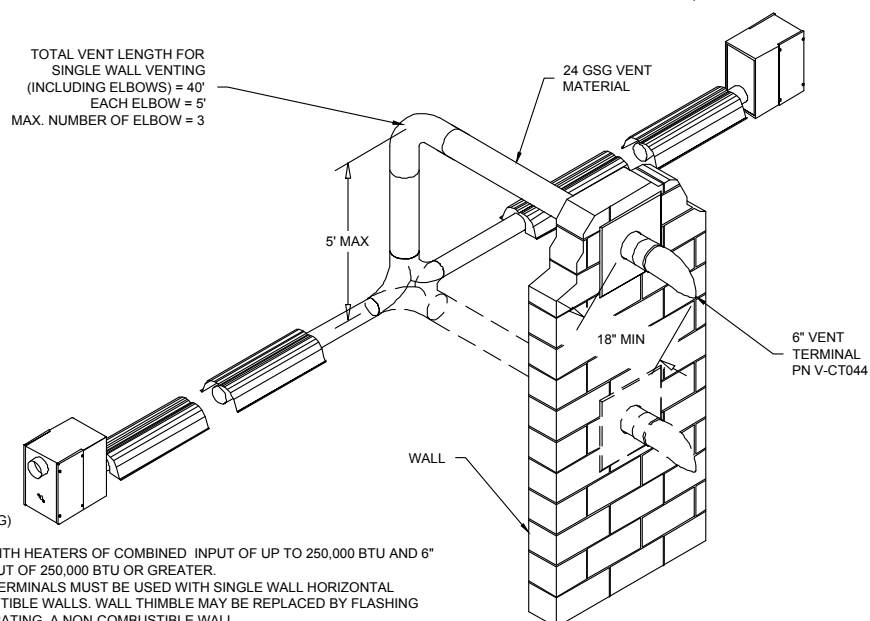

Figure 26: Common Horizontal Venting
- Refer to Figure 26 for detailed common horizontal venting guidelines.